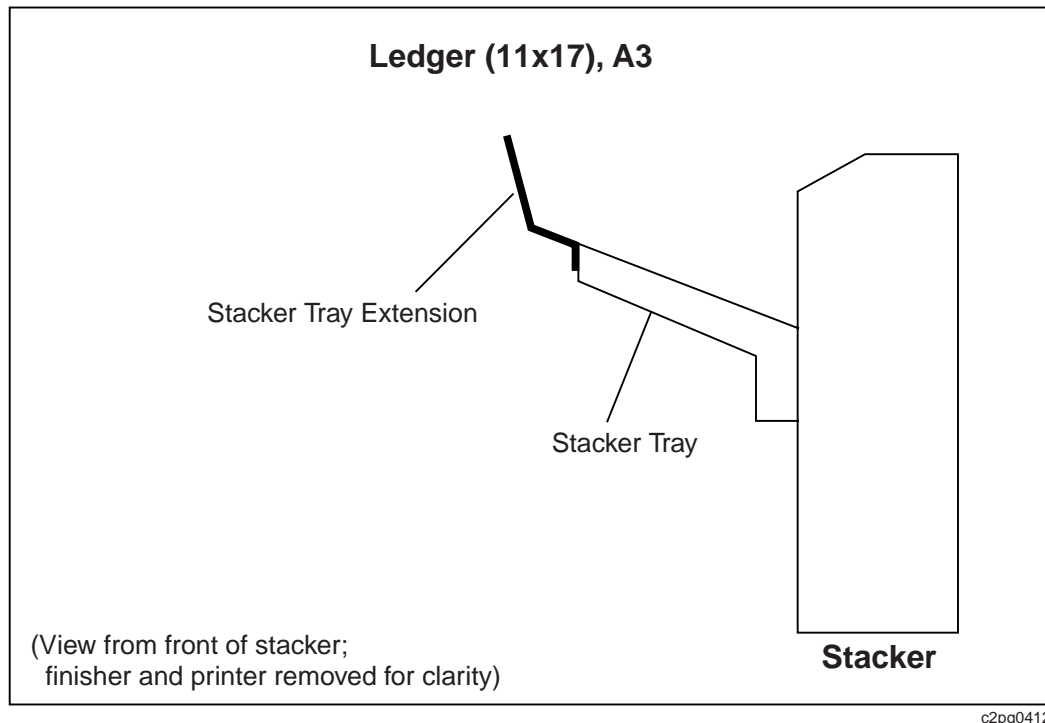

Figure 9. Stacker Tray Extension—Ledger and A3
- \_\_\_ 7. If your job will be printed on Ledger-size or A3-size paper, lift up the stacker tray extension. See Figure 9 on page 18.